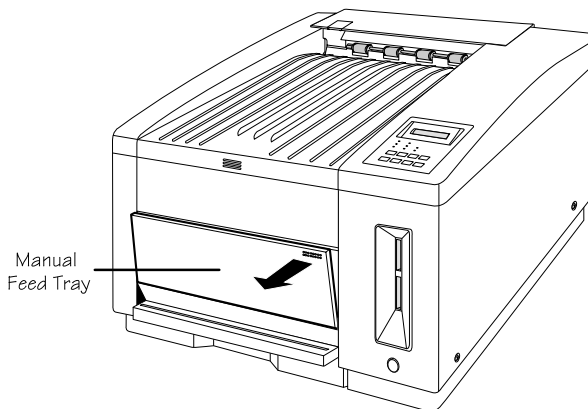

Fig. 2.24 *Open the Manual Feed Tray*
1. Open the manual feed tray (fig. 2.24) by pushing the top-right corner to release the spring latch.